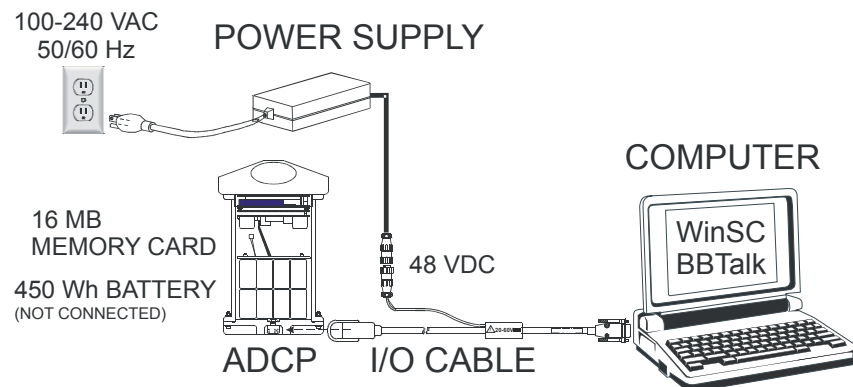

Figure 6. WorkHorse Sentinel Connections
Figure 6 illustrates how to connect the WorkHorse cables and adapters on your workbench. The internal battery plugs into a connector on the top circuit board.
- a. Connect and power up the ADCP as shown in Figure 6, page 12.